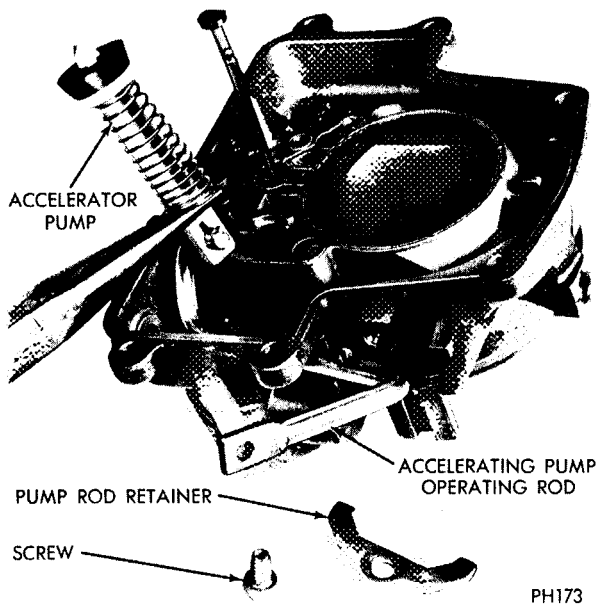

FIG. 16 Remove or Install Accelerator Pump Assembly
5. Rotate the pump operating rod and disconnect the pump drive spring and accelerating pump assembly (Fig. 16). Set the pump assembly aside. Do not immerse in cleaner. A new pump cup is in the kit.